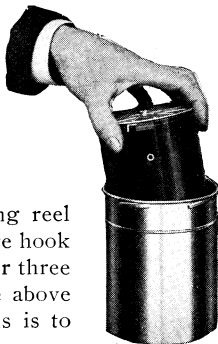

FIG. 3.
13. Having filled Solution Cup, lower Transferring Reel into cup with end containing cross bar up. (Fig. 3.) Let reel slide down very slowly so solution will not overflow. The total length of time for development is 20 minutes.